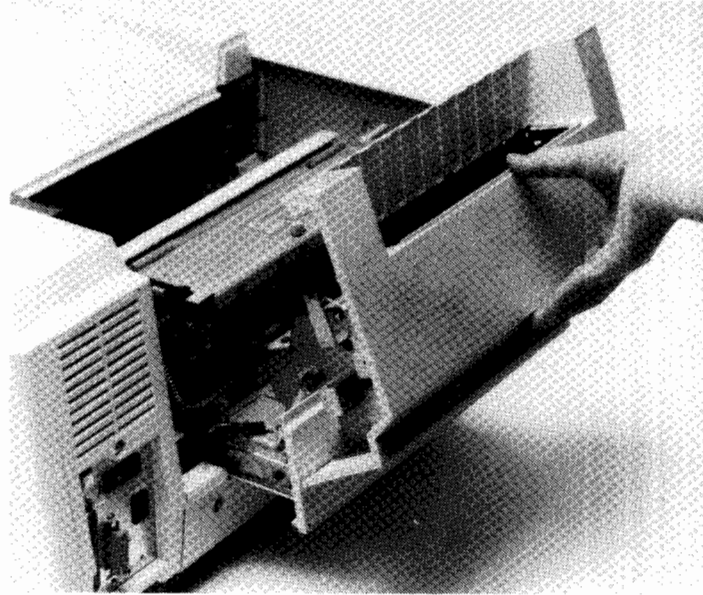

Figure 5-12. Opening Paper Exit Cover
- c. Open the paper exit cover (figure 5-12).